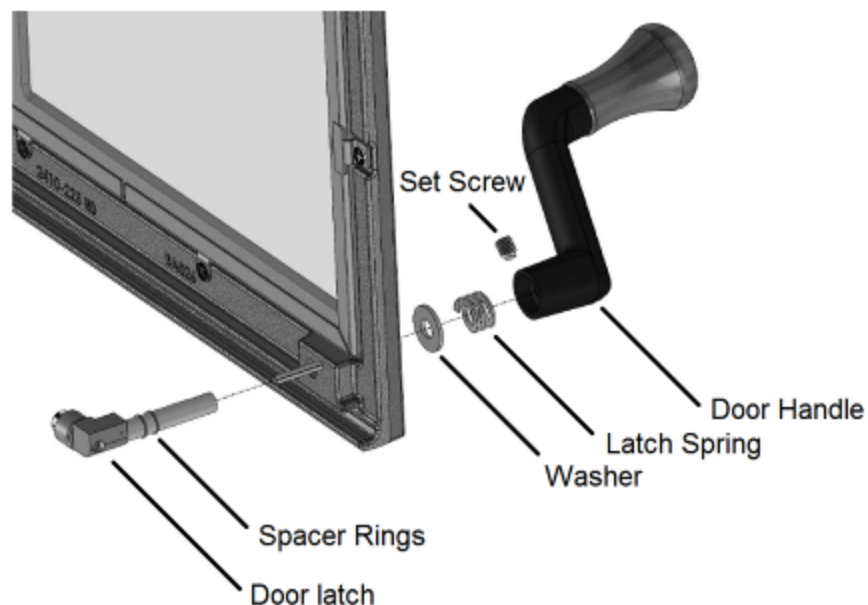

Figure 1.
- (1) Using the 5/32" Allen wrench, completely turn out the setscrew that holds the crank handle to the latch assembly. While holding the latch with the pliers, rotate the outer crank until it disengages from the threaded portion of the latch.
- (2) Separate the latch and crank. Discard all of the original latch components.
- (3) Place two of the brass washers onto the latch shaft. Keep the other two for possible adjustment needs. Apply lithium grease to latch shaft.
- (4) Push the latch shaft through the door. Place the large black washer onto the latch on the outside of the door. It will be flush to the surface of the outer door. Place the tension spring over the latch on the outside. See Figure 1 for detail.
- (5) Thread the crank onto the latch shaft. Continue to turn until it is flush to the surface of the door. Now turn it back until it is approximately 1/8" from the surface of the door.
- (6) Turn the crank until you can see the grooved out notch in the edge of the latch shaft (a flashlight may be helpful here). Once the two pieces are lined up in this manner, turn in the new setscrew. Use the Allen wrench to tighten the setscrew into the grooved notch in the latch.
- (7) Using the Allen wrench, attach the new wooden handle onto the new latch assembly with the shoulder bolt.